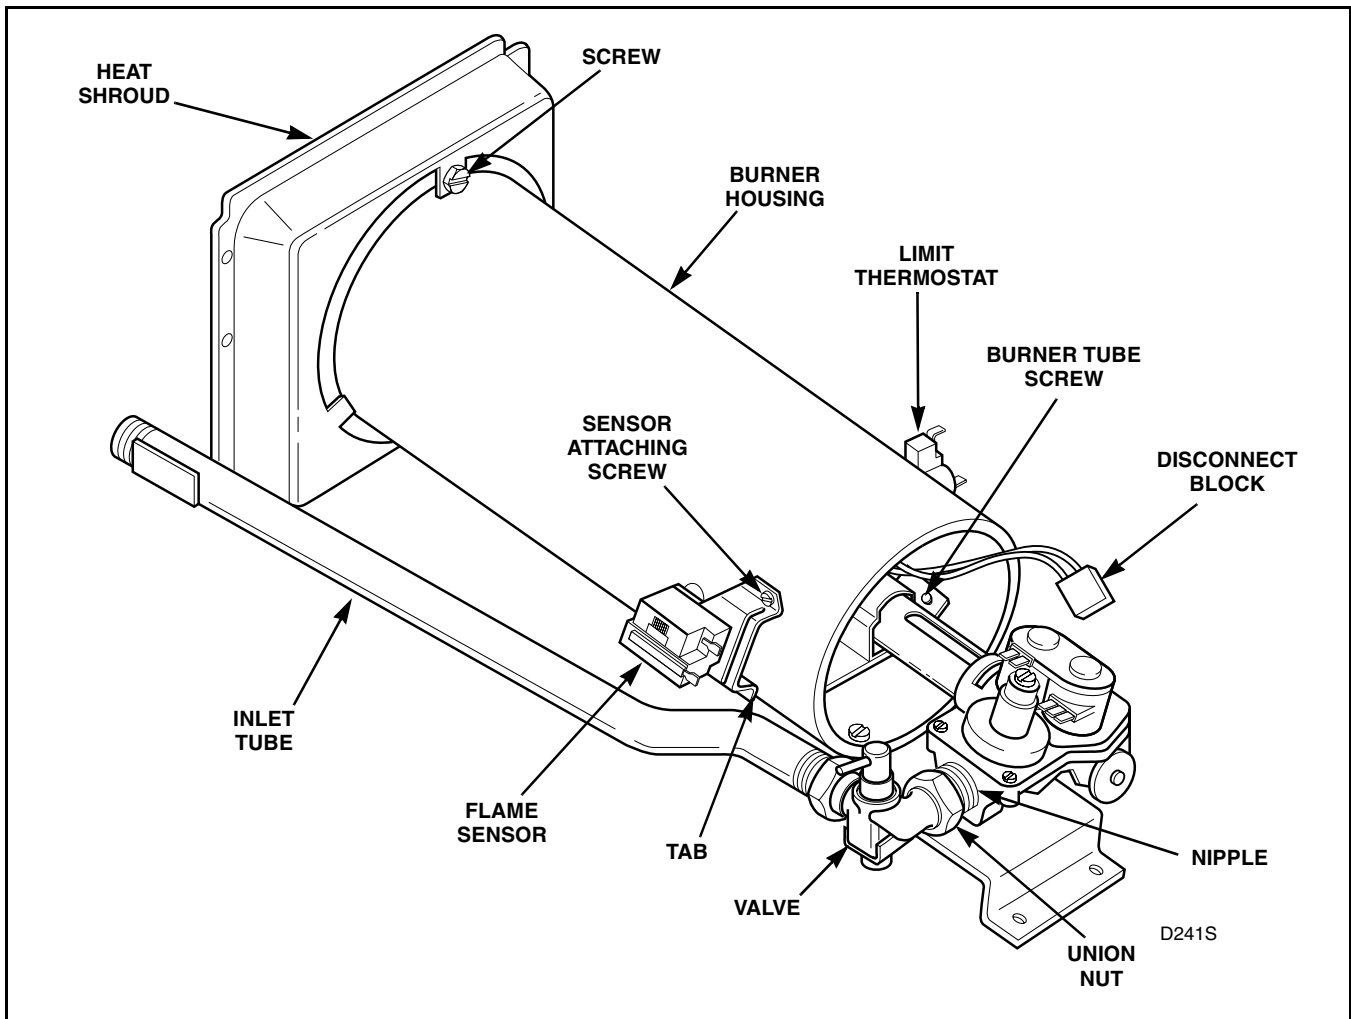

Figure 19
Refer to *Figure 19*.
1. Remove wires from sensor terminals. Refer to *Figure 19*.